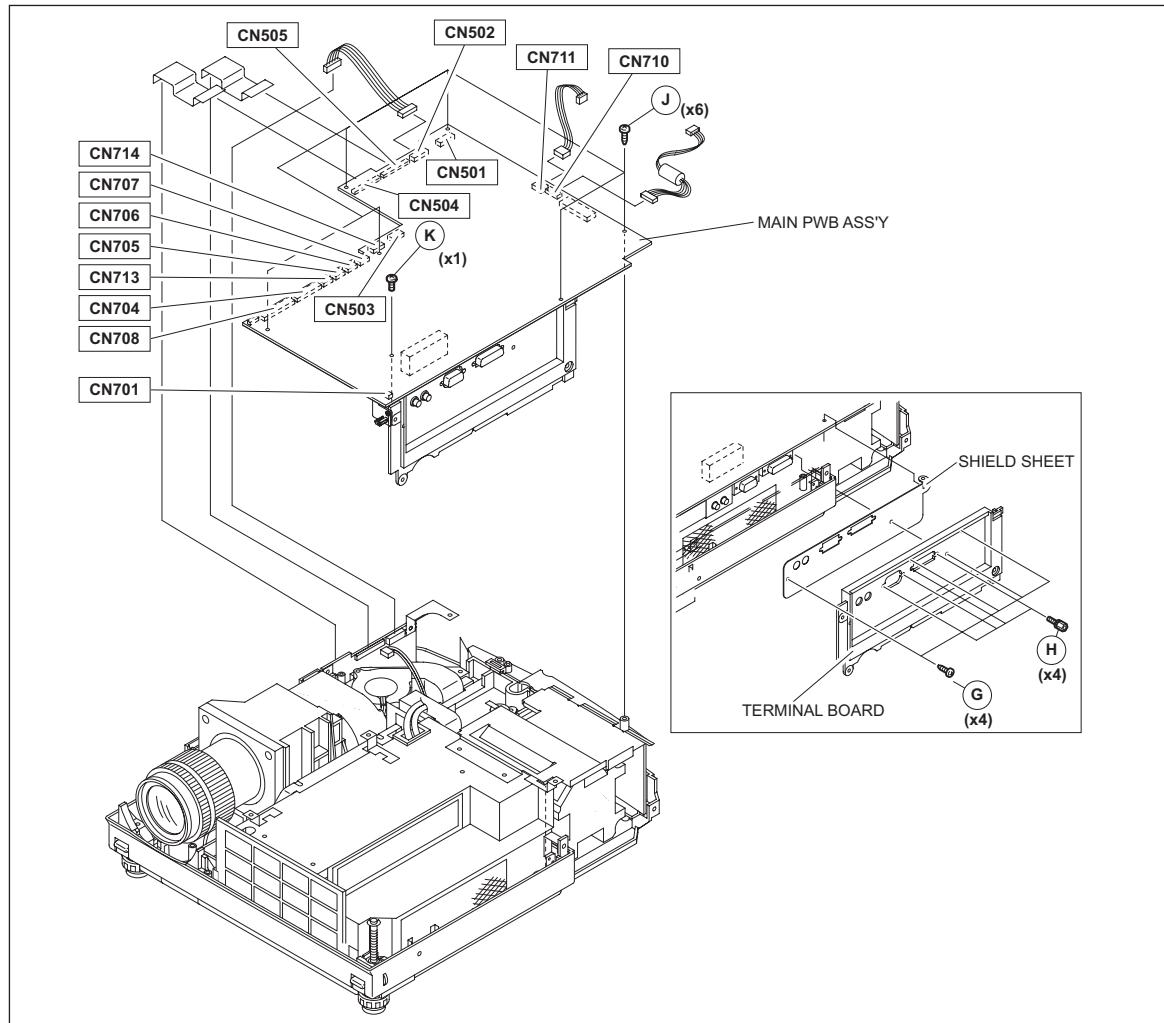

Fig.3
- (1) Remove the 6 screws marked **J** fixing the MAIN PWB ASS'Y. (Fig.3)
- (2) Remove the harness from the connectors CN710 and CN711.
- (3) Remove the cord wire from the connector CN504 and CN505.
- (4) Remove the harness from the connectors CN501, CN502, CN503, CN714, CN707, CN706, CN705, CN704, CN703, CN701, CN708.
(1) Remove the 4 screws marked **G** fixing the TERMINAL BOARD. (Fig.3)
(2) Remove the TERMINAL BOARD.
(3) Using a nut driver and the like, remove the 4 screws marked **H** fixing the D-SUB connector and DVI connector. (Fig.3)
(4) Pull out the SHIELD SHEET toward you to remove it.